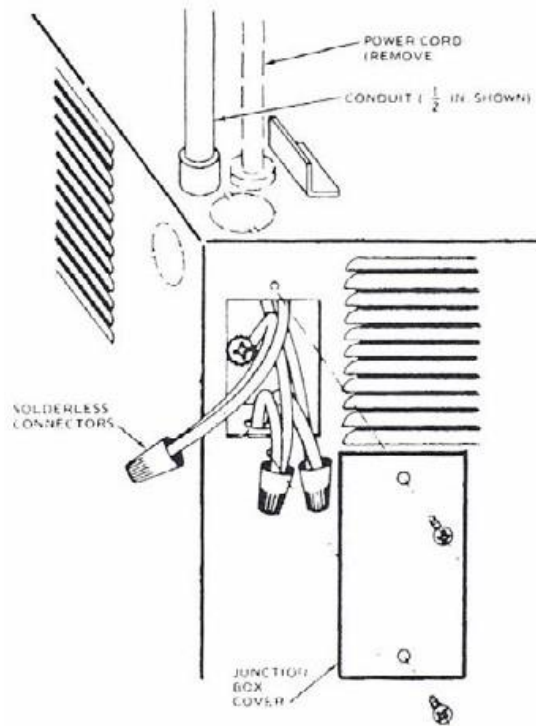

Figure 12 – C-12 Power Input
To permanently wire the C-12 follow these instructions exactly. All wiring must comply with applicable codes and ordinances. Wire the C-12 using the built-in junction box as indicated in Figure 12.
1. Open C-12 junction box cover (Figure 12).